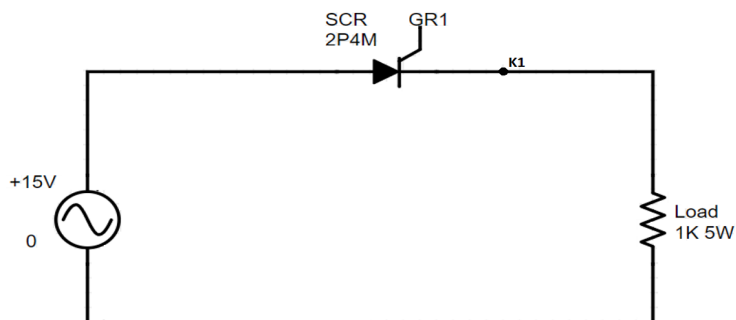

Figure 12
1. Connect the circuit, as shown in Figure 12, using patch cords.